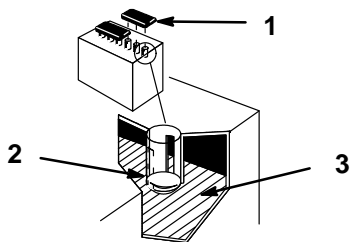

Figure 17
1. Open covers to see into the cells. The electrolyte must be up to the lower part of the tube (Fig. 17). Do not allow the electrolyte to get below the plates. (Fig. 17).
2. Lift off the filler caps (Fig. 17).
3. Slowly pour distilled water into each battery cell until the level is up to the lower part of the tube (Fig. 17).